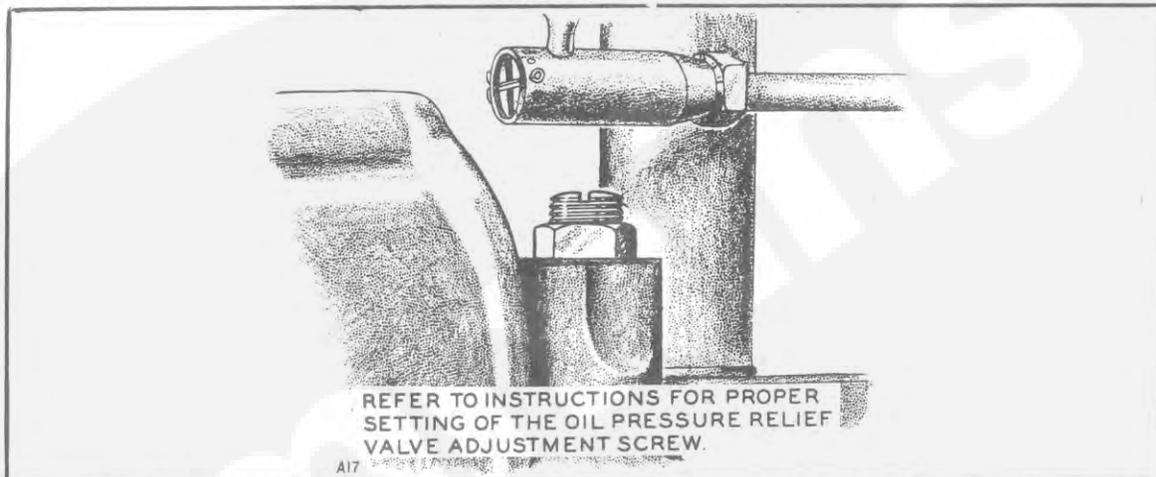

FIG.25- OIL PRESSURE RELIEF VALVE ADJUSTMENT
**OIL PRESSURE RELIEF VALVE ADJUSTMENT.** - The oil pressure of the plant can be easily adjusted by means of the slotted stud and locknut located just below the governor linkage. See Fig. 25. Oil pressure reading when the plant is thoroughly warmed up is from 25 to 40 pounds. To increase oil pressure, loosen the locknut and turn the stud in. To decrease oil pressure, loosen the locknut and turn the stud out. Be sure to tighten the locknut securely after making an adjustment.